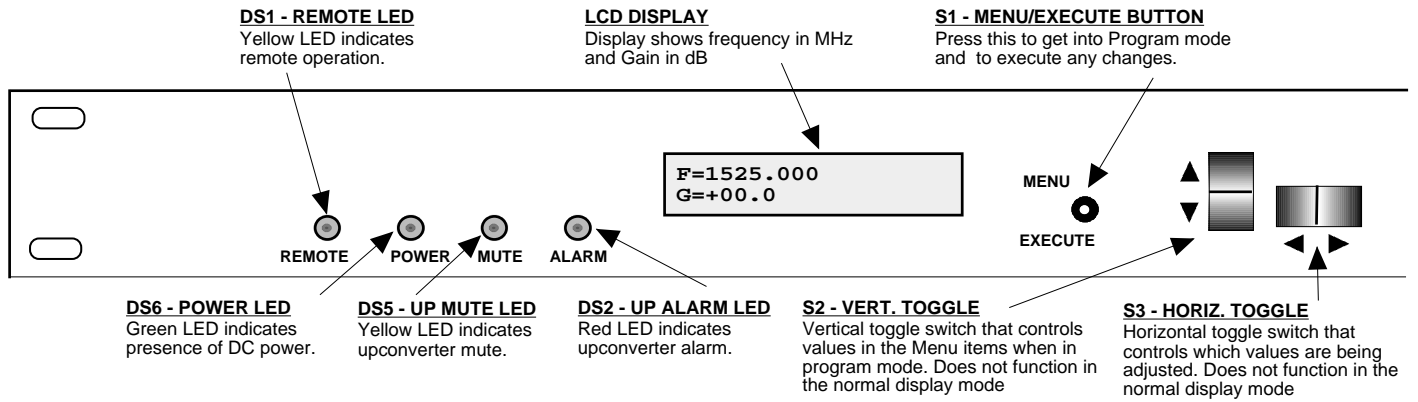

FIGURE 2.3 Front Panel Controls and Indicators
Figure 2.3 shows the front panel controls and indicators.
7. Be sure DS6 (green, DC Power) is on and DS2 (red, Alarm) is off (Figure 2.3).